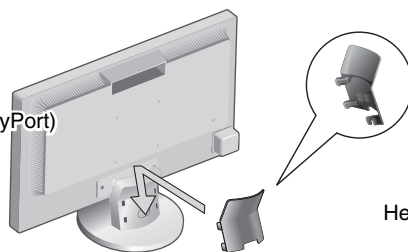

Figure C.1
4. Connect one end of the power cord to the monitor and the other end to the power outlet. Place the Video Signal Cable and power cord to the Cable Holder (**Figure C.1**).